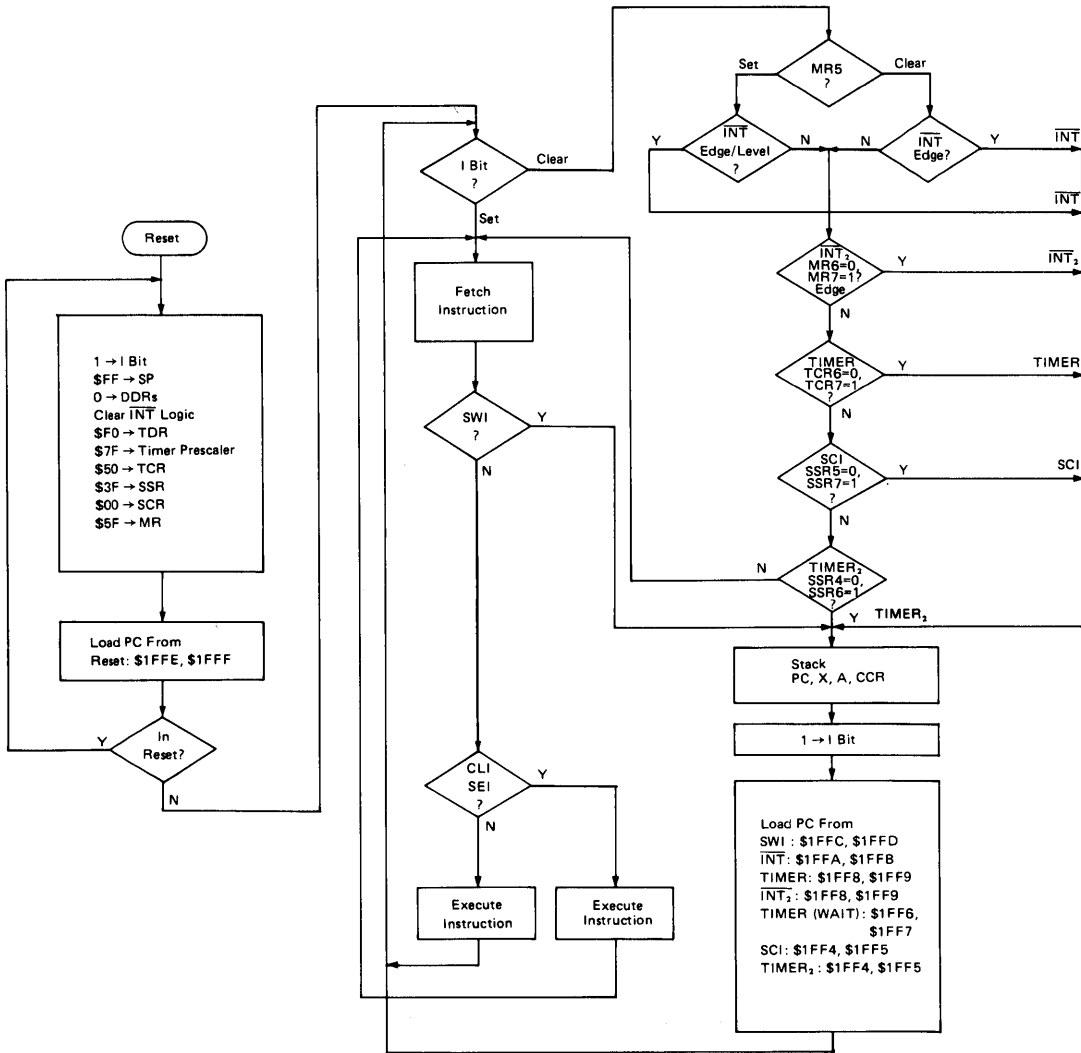
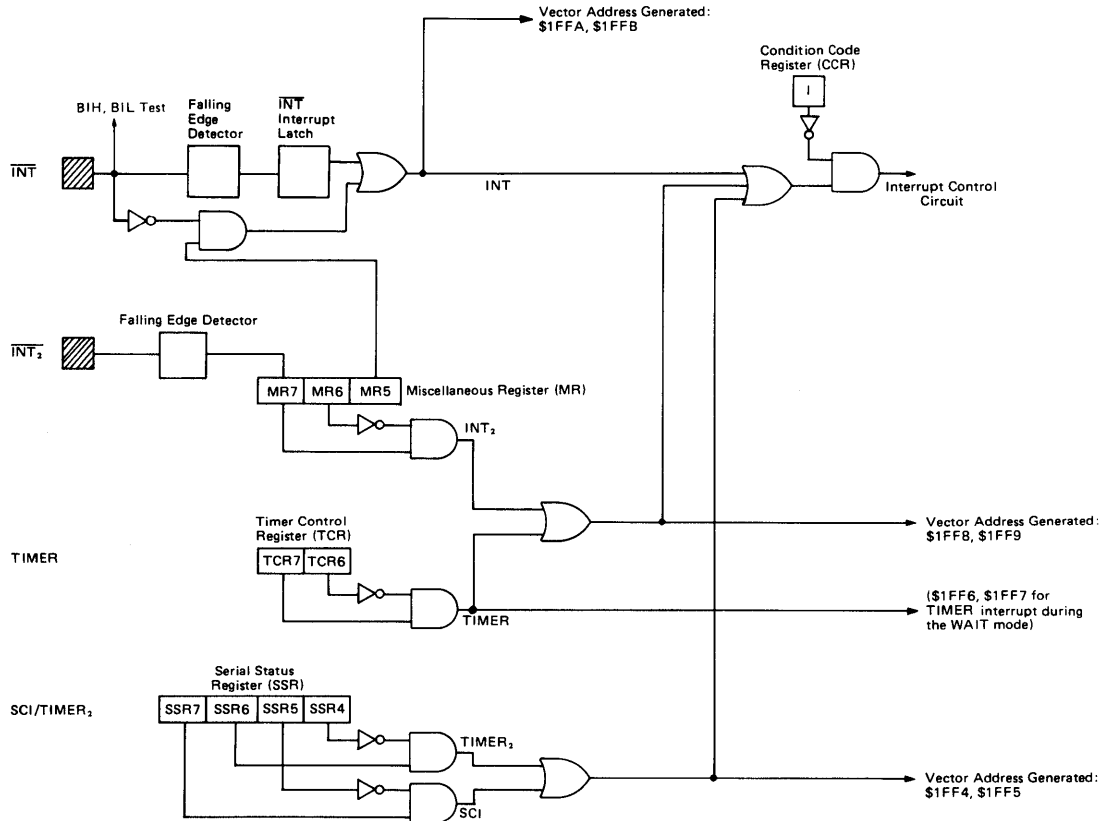

Figure 7 Interrupt Flowchart
Figure 8 Interrupt Request Generation Circuitry
A flowchart of the interrupt sequence is shown in Fig. 7. A block diagram of the interrupt request source is shown in Fig. 8.
In the block diagram of Fig. 8, the external interrupt INT2 is a falling edge trigger input, whereas, the external interrupt INT can be configured as a falling edge trigger input or a combination of falling edge and low level trigger input, depending on the status of bit 5 in the miscellaneous register (MR). When an interrupt request is detected at the INT2 or INT inputs, an interrupt request is generated and latched. The INT interrupt request is automatically cleared if jumping is made to the INT processing routine. Meanwhile, the INT2 request is cleared if "0" is written in bit 7 of the miscellaneous register.